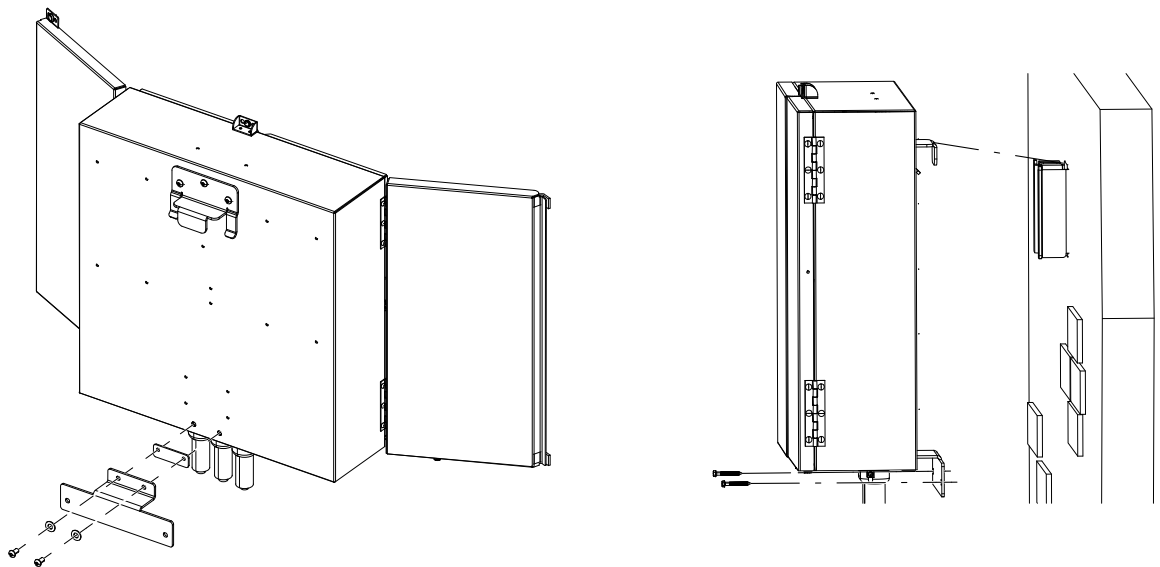

Figure 5. Installing Bottom Bracket to Cabinet and Cabinet on wall-Mounted Bracket
9.2 Use the 2 bracket mounting capscrews to secure the bottom mounting bracket to the cabinet in the specified mounting location. Tighten each capscrew securely, shown in Figure 5.
9.4 Hang the cabinet from the installed top mounting bracket. The welded bracket on the back of the cabinet, shown in Figure 5, fits into the two slots at the top of the top mounting bracket.